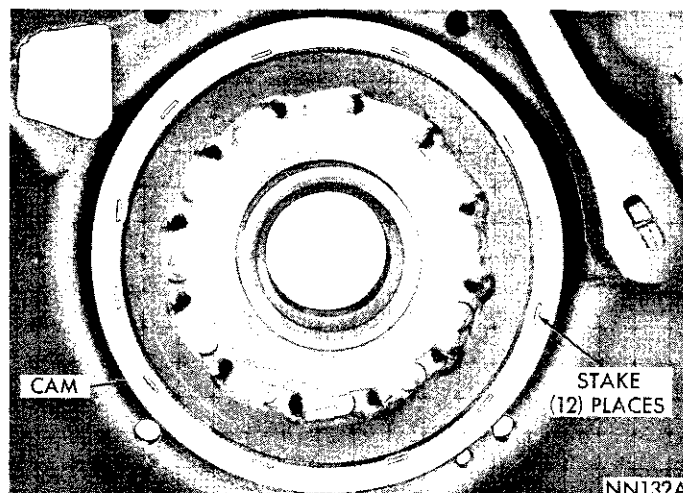

Fig. 69—Overrunning Clutch Cam Staked (A-727)
(7) Remove cam installing tool. Install and tighten support retaining screws to 150 inch-pounds. Stake case around the cam in twelve places with a blunt chisel (Fig. 69).